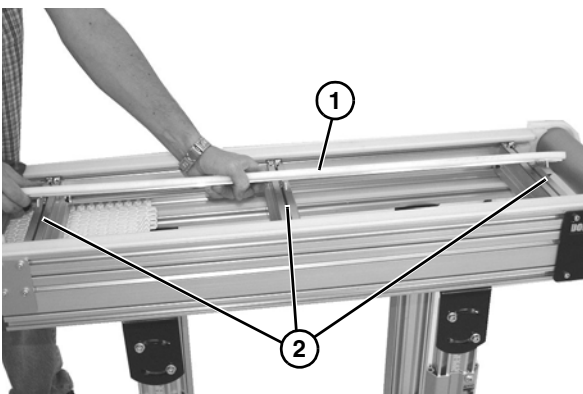

Figure 36
4. Remove center frame channel (**Figure 36, item 1**), making sure to keep each clamp matched with channel of each cross member (**Figure 36, item 2**).